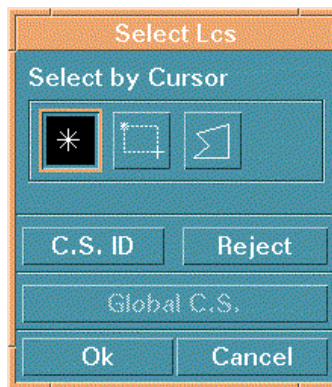

Figure 10.11.4 Select LCS
- The SELECT LCS dialog window appears, see Figure 10.11.4.